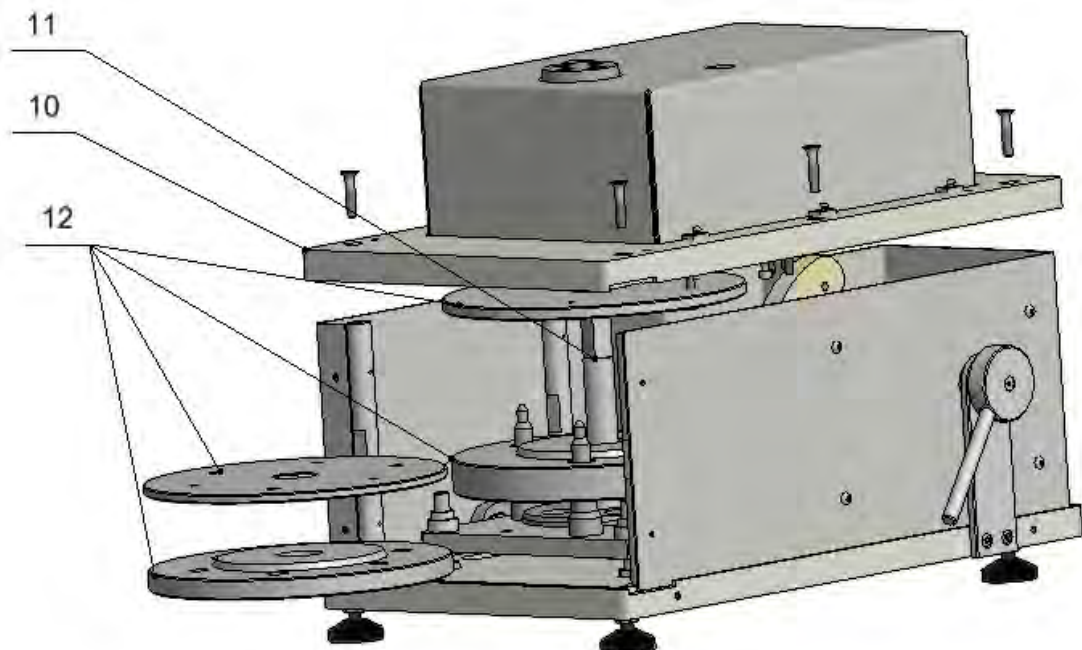

Fig.4
8. As careful as possible, so as not to cause any wire defects, remove lid (10) together with the mechanism. The space between lid (10) and a connecting member (11) shall be used for applying ballast weights (12). (Fig.4)